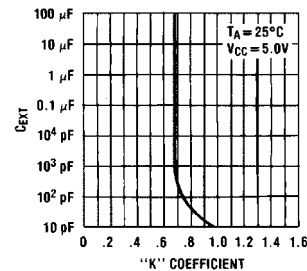

FIGURE 5.
6. The "K" coefficient is not a constant, but varies as a function of the timing capacitor C_X. Figure 5 details this characteristic.
7. Under any operating condition C_X and R_X must be kept as close to the one-shot device pins as possible to minimize stray capacitance, to reduce noise pick-up, and to reduce I X R and L di/dt voltage developed along their connecting paths. If the lead length from C_X to pins (10) and (11) is greater than 3 cm, for example, the output pulse width might be quite different from values predicted from the appropriate equations. A non-inductive and low capacitive path is necessary to ensure complete discharge of C_X in each cycle of its operation so that the output pulse width will be accurate.